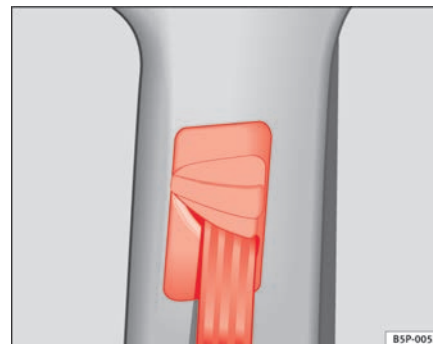

Fig. 16 Location of the belt height adjuster
- Press the upper part of the shoulder belt guide and hold it in this position ⇒ page 27, fig. 16.